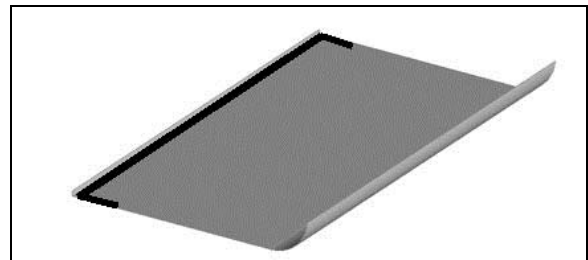

FIGURE 47 : SIDE PANEL INSTALLATION – SIKA 221 OR 252 APPLICATION ON SIDE PANEL
8. Apply a 5mm diameter bead of Sika 221 or 252 on side panel as shown on FIGURE 47;